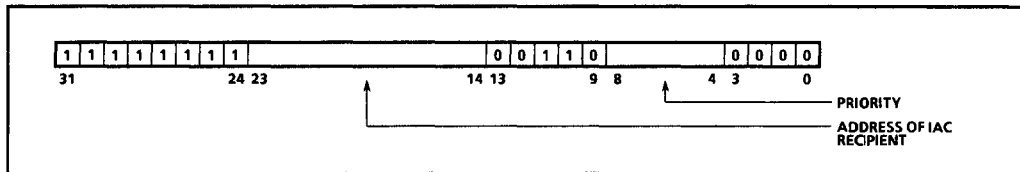

Figure 13-2: Encoding of Address for Processor Receiving an IAC
Sending an external IAC message is similar to sending an internal IAC message, except that the address of the receiving agent is specified in a slightly different way. Figure 13-2 shows the required encoding of the address for the receiving agent.
At initialization each agent on the bus is assigned a unique address in the range of FF00C00₁₆ to FFFFCC00₁₆. To send an IAC to an agent, the sending agent sends the message to the address assigned to the receiving agent. As shown in Figure 13-2, only bits 14 through 23 of this address are interpreted to determine the address of the receiving agent. Bits 4 through 8 of this address are used to encode the priority of the message.
2. Execute a **synmovq** instruction to move the message from its source address to the address of the receiving agent (encoded in the form shown in Figure 13-2).